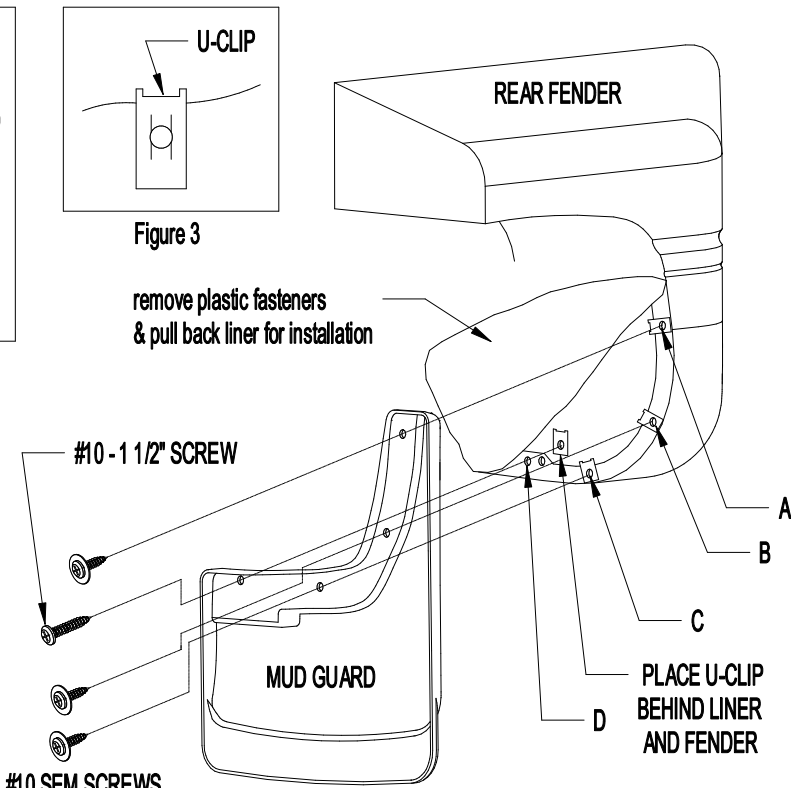

Figure 1
2. Remove existing plastic fasteners from locations A, B, C, & D by cutting off the heads of the fasteners and pushing the remaining piece through the liner attachment hole (Figure 1).
3. Pull back fender liner to expose attachment holes (Figure 1).
5. Place mud guard between fender and fender liner and install a #10 SEM screw through fender liner, mud guard, U-clip and fender tab at locations A, B, and C (Figure 1 and 2).
6. Install #10 1 1/2" screw and washer at location D, place the U-clip on the backside of the liner (DO NOT PLACE OVER THE FENDER) (Figure 1 and 4).